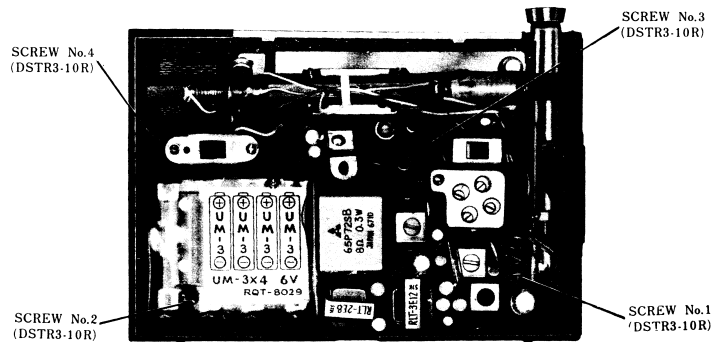

Fig. 2 Top View - Disassembly Points.
**To Remove Chassis (Refer to Fig. 2)**
2. Remove red chassis mounting screws, Nos. 1~4, as illustrated in Fig. 2.